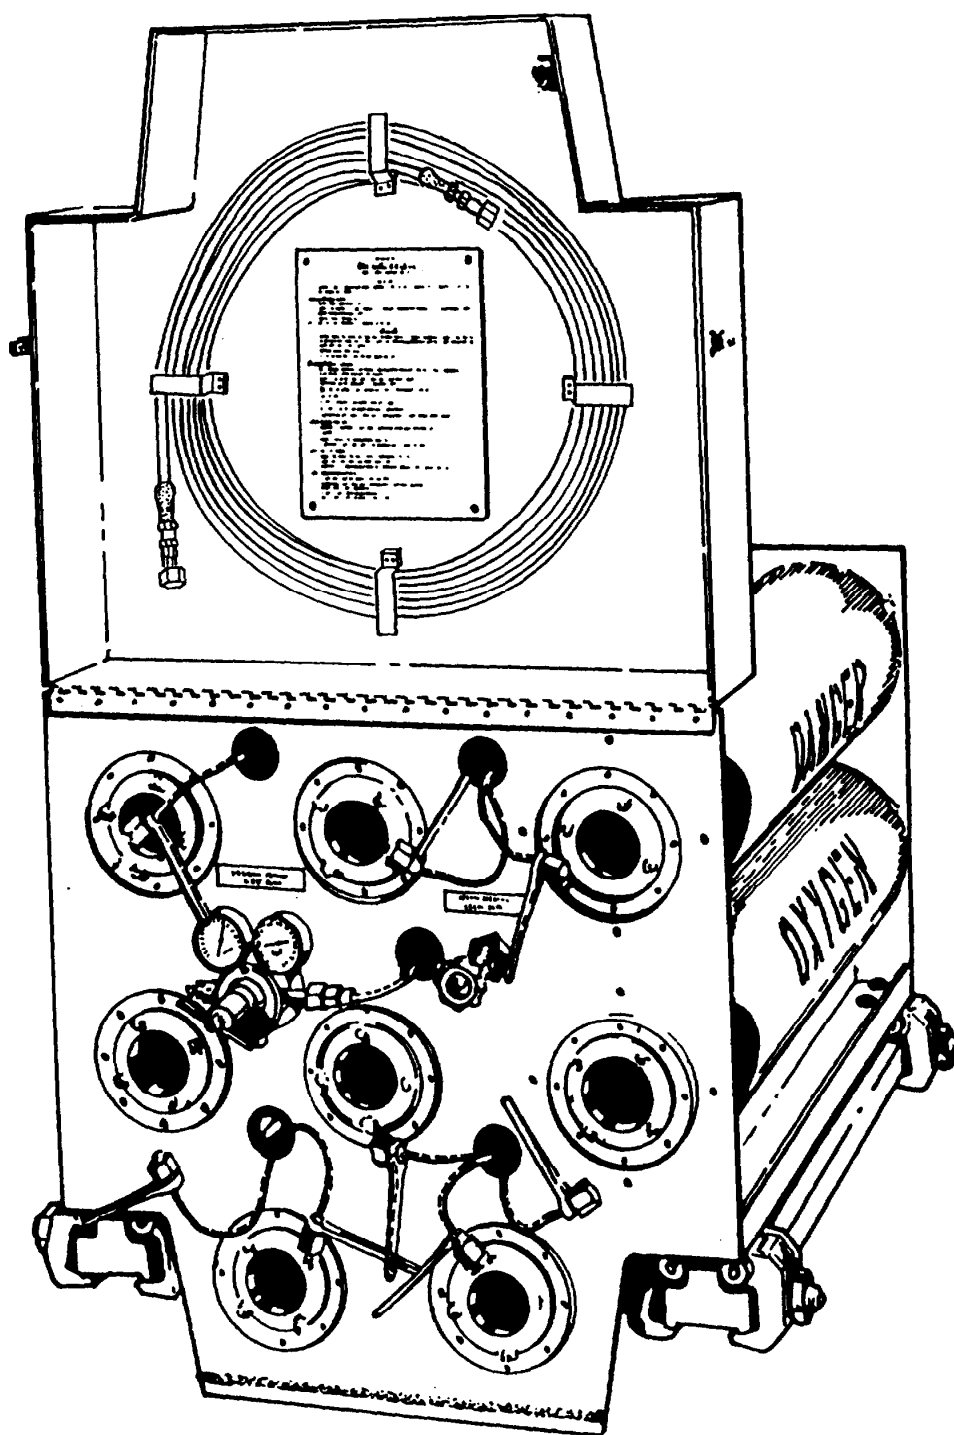

Figure 9-24. Oxygen Servicing Unit
*g. Oxygen Servicing Unit.* The oxygen servicing unit, shown in figure 9-24, will provide oxygen at a maximum pressure of 3,000 psig. Each of the eight bottles will hold 224 cf of oxygen. The flow capacity of the regulator is 1,500 scfh at 2,300 psig delivered.